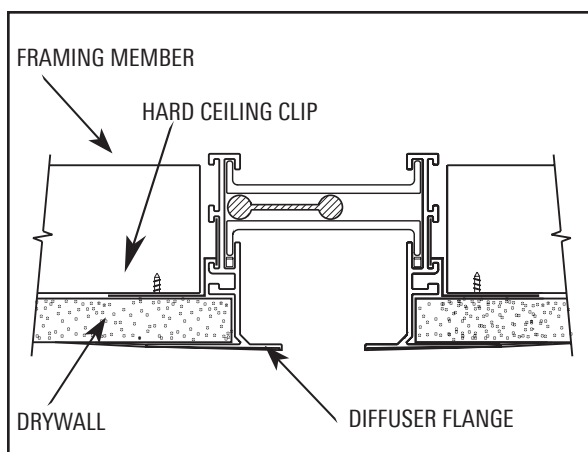

Figure 8. Drywall Installation
- ☐ Slide the Drywall tightly between the mounting clips and the AIR-TRAC™ Flange as shown in Figure 8. For ease of installation, insert the tapered edge of the Drywall into this opening. For the best fit, slide the edge of the Drywall all the way to the vertical leg of the frame.